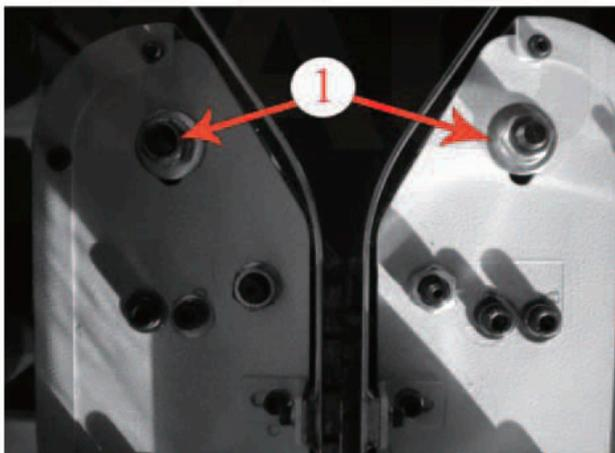

Fig.4a
- b. Loosen No. 1 Nut at the front of the side which needs adjusting. (See **Fig.4a**)